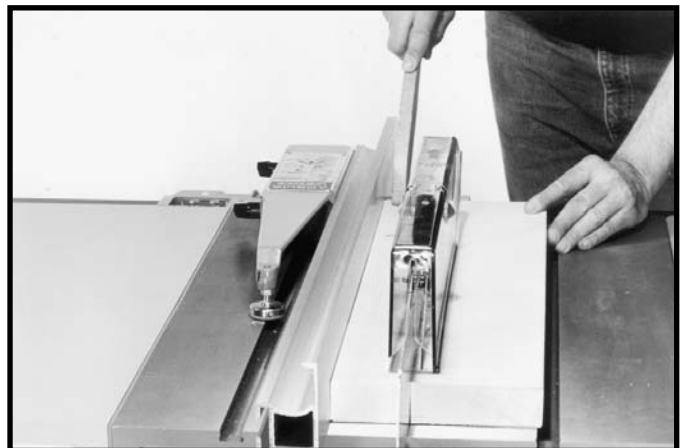

Fig. 126
2. If the ripped work is less than 4 inches wide, a push stick should always be used to complete the feed, as shown in Fig. 126. The push stick can easily be made from scrap material as explained in the section **“CONSTRUCTING A PUSH STICK.”**